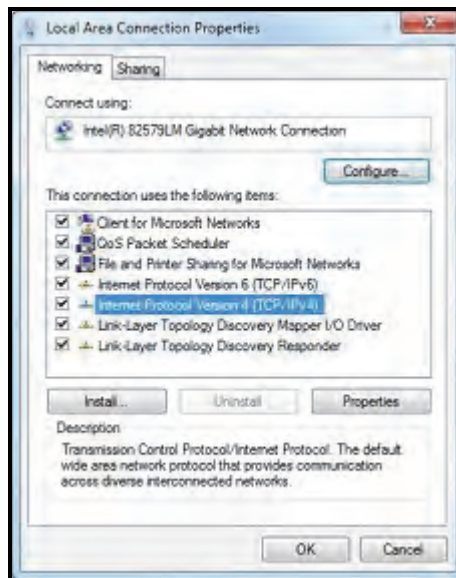

Figure 1-2. Local Area Connection Properties Dialog Box
4. Highlight **Internet Protocol Version 4 (TCP/IPv4)** as shown in Figure 1-2, and click **Properties**. The properties dialog will appear.